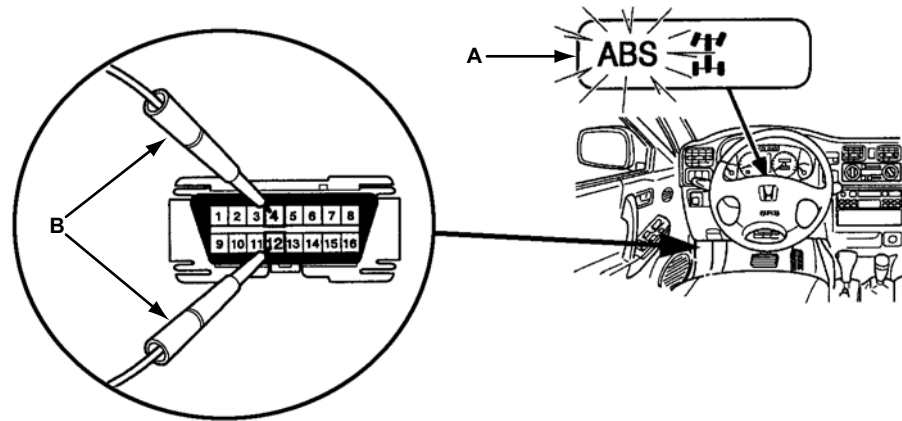

Figure 8-35 1996–2002 Passport with 4WAL system
1. With the ignition off, jump pins 4 and 12 of the 16-pin DLC (Figure 8-35).